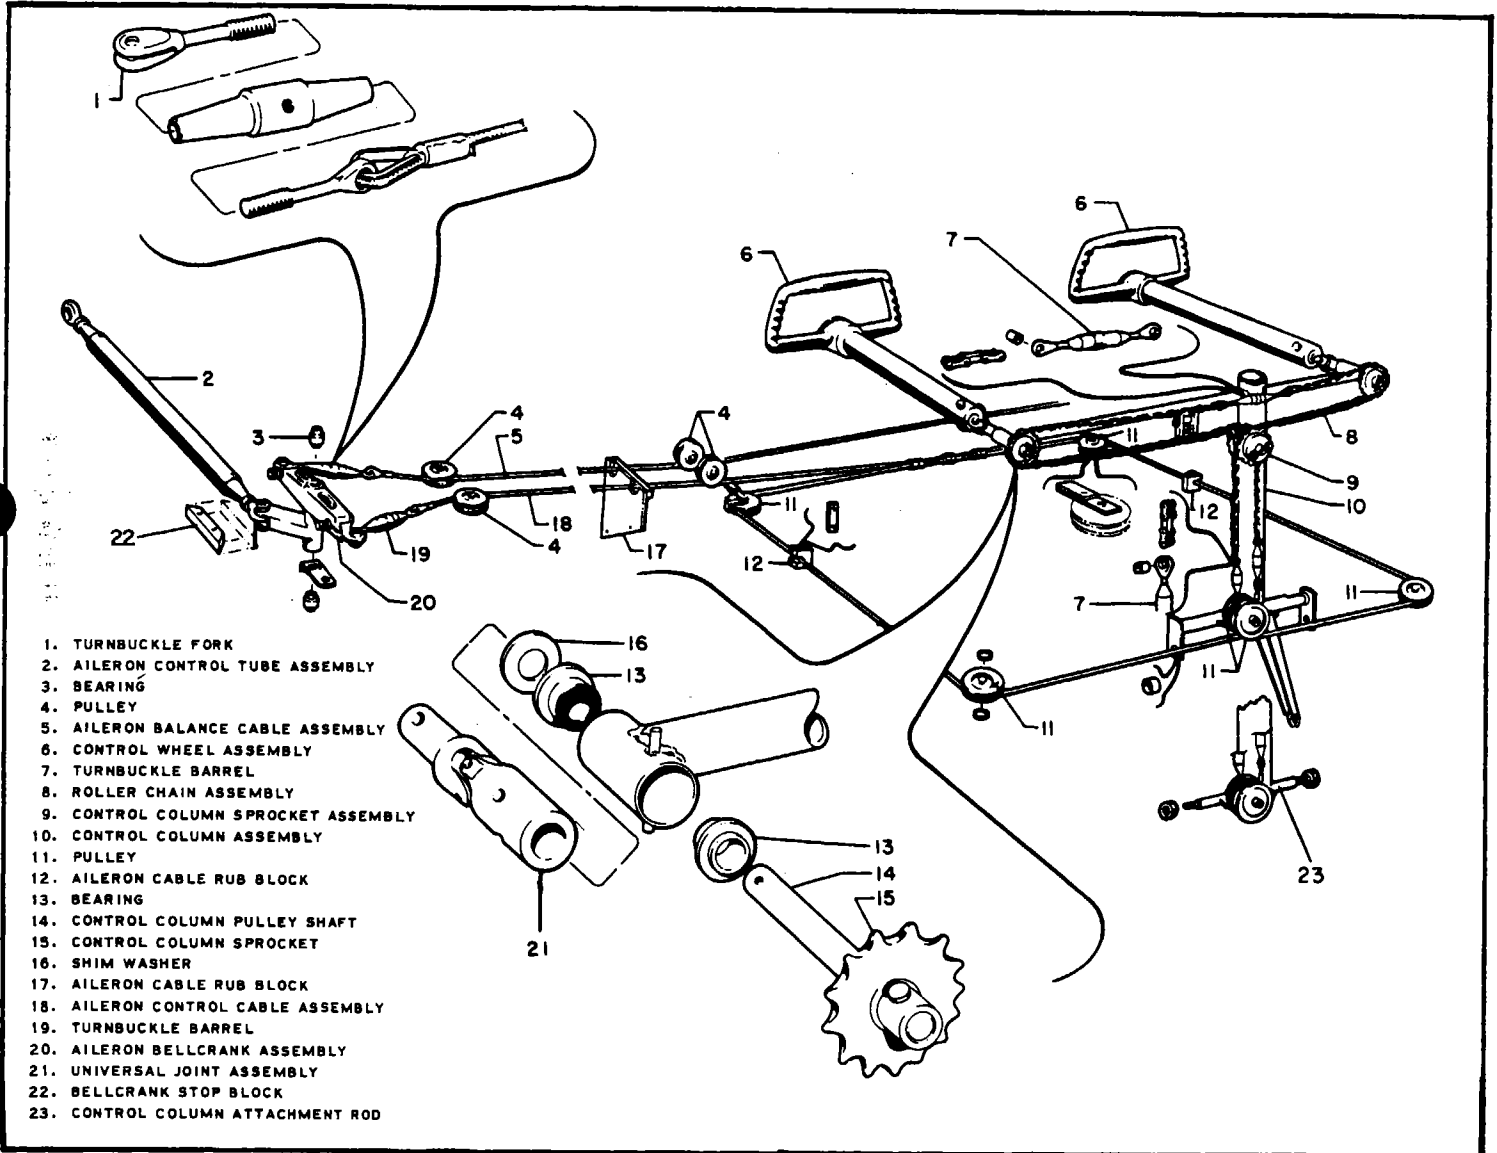

Figure 5-1. Aileron Control Installation
- b. Insert a rod in the three turnbuckle barrels (7, Figure 5-1) and rotate the barrels to relieve tension in the roller chain assembly (8).
- c. Remove the turnbuckle eyes from the two vertical turnbuckles. Unwrap the chain from the control column sprocket assemblies (9 and 15) and the steering wheel cable from the steering wheel pulleys (11).
- d. Insert a rod in the barrel (19) of the turnbuckle which maintains tensions in the bellcrank-connecting aileron control cable assembly (18) and relieve cable tension. Repeat this step for the aileron balance cable assembly (5).
- e. Disconnect turnbuckle fork (1) from each end of both bellcranks by removing a cotter pin, nut, washer, and clevis bolt.
- f. Disconnect aileron control tube assembly (2) from the aileron bellcrank assembly (20) by removing a cotter pin, shear nut, washer, clevis bolt and washer.
- h. Free the bellcrank. Remove self-locking nut, washer, bolt, and bearings (3).
- k. Disconnect universal joint assembly (21) from steering column by removing both self-locking nuts and bolts.
- l. Reassemble and install the pulleys, sprockets, universal joints and bellcranks in reverse order of the removal instructions above and refer to Figure 5-1.
- a. With the control wheel in the neutral position laterally and with the lower surface of the control wheels horizontal, rig cables at turnbuckles so that aileron bellcrank assembly (20, Figure 5-1) is in the neutral position and cable tension is between 28 and 42 pounds on a tensiometer.
- b. Adjust aileron control tubes (2, Figure 5-1) so that ailerons are in neutral position.